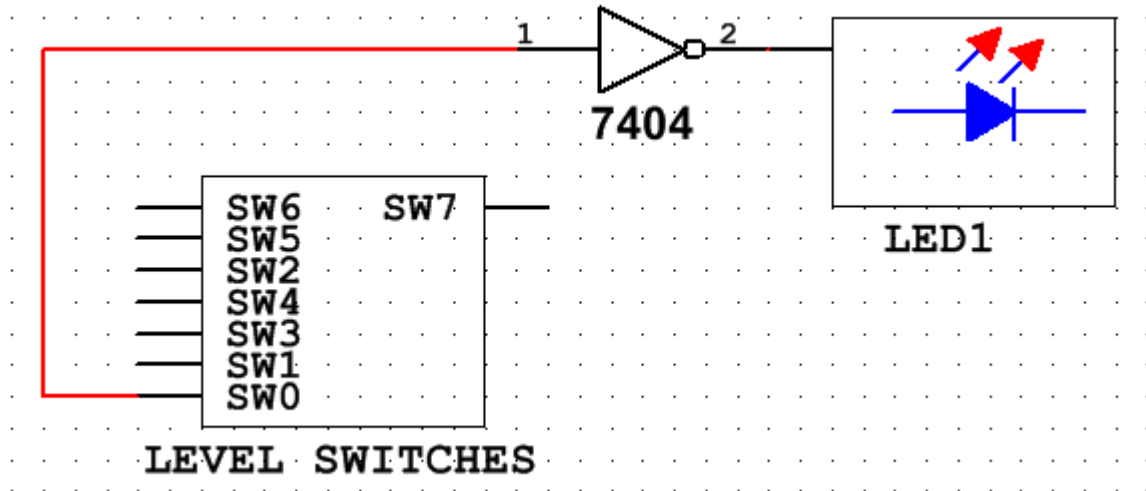

Figure 4
3.1. Turn off the trainer. Build the circuit in the logic diagram (Figure 4) using the 7404 chip and the trainer. Reference the datasheet to determine pinout of 7404 chip. Vcc for all the TTL chips will use the +5V power supply.